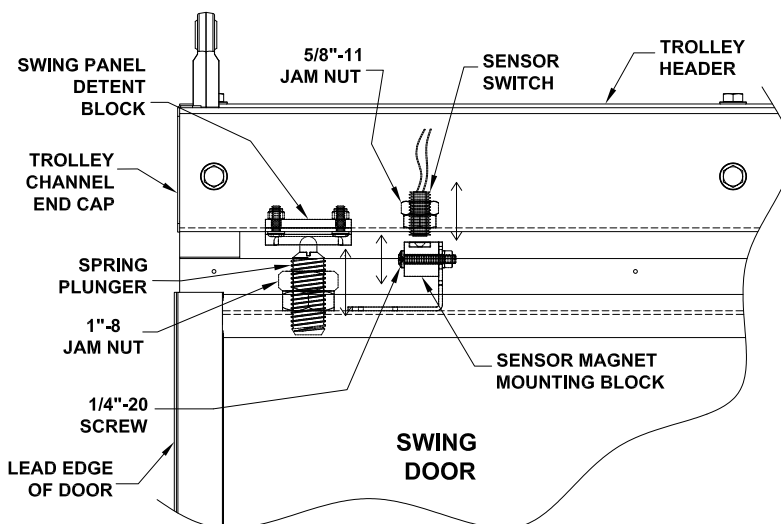

Figure 21: Breakout Panel Adjustment
- 1. Sensor magnet/switch adjustment:** (figure 21) gap between bottom of sensor switch & top of sensor magnet should be set to $1/4" \pm .125"$. To adjust gap, loosen screws holding sensor magnet block in bracket, and slide up or down as needed. Re-tighten screws. If more adjustment is needed, remove trolley channel end cap, loosen top 5/8"-11 jam nut holding sensor in position, and screw sensor up or down in bottom jam nut. Tighten top jam nut, and replace end cap.